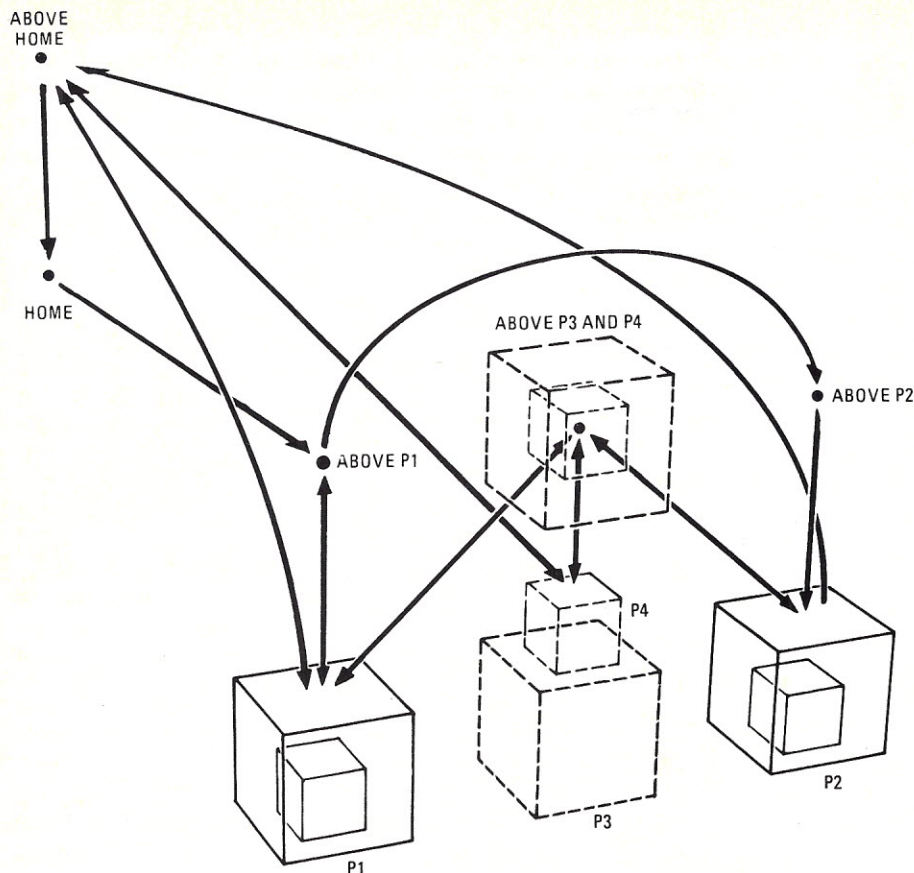

Figure 6: Definition of position referred to in block-stacking program with motion shown by arrows.
**Sample Programs:** A "pick and place" program which uses just the joint-control keys is shown in listing 1. Once the user masters the basic arm motions through creating simple programs like this, he can progress to more complex tasks. One such task is flowcharted in figure 5. Here, two different blocks are placed in predetermined locations. (P1 and P2 as shown in figure 6.) The arm does not know in advance which block is larger. The task is for the arm to locate the larger block, move it to a new location (P3), and stack the smaller block on top of it (location P4). Listing 2 shows how this is accomplished. Note how the JUMP command is used for conditional branching.